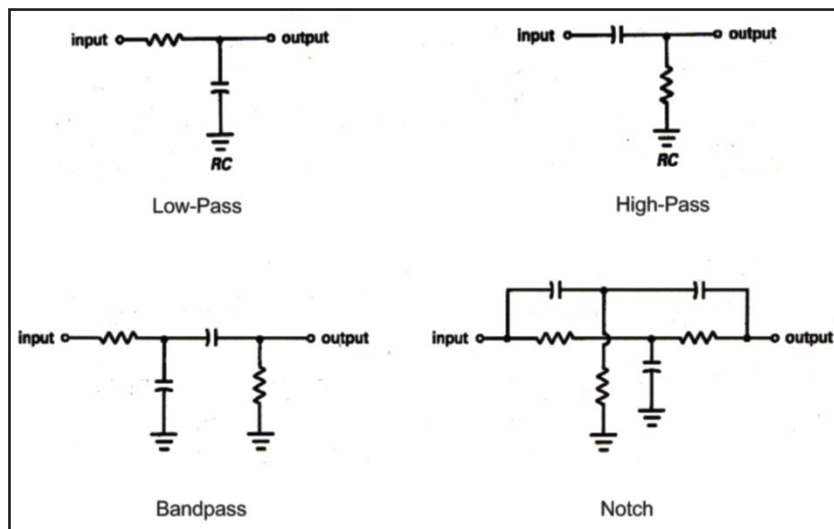

Figure 2: Low-pass, high-pass, bandpass, and notch filters can be made of resistors and capacitors.
Figure 2 shows basic resistor-capacitor (RC). The "cutoff (or turnover) frequency" of a low-pass or high-pass filter is the frequency at which the gain is 3 dB below that in the "passband"—the frequency range where the filter provides negligible cut. Of course, the gain is fractional (negative decibel) in a passive filter. The turnover frequency of a low-pass or high-pass RC filter is given by: